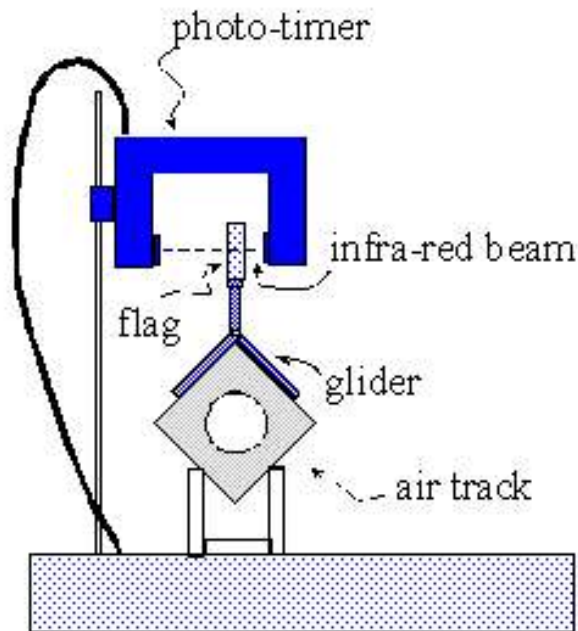

Figure 1: End view of track with aligned photogate.
1. Photogate placement. For accurate results the photogates must be correctly placed. See Figure 1 and notice how close one side of the photogate is to the glider. This eliminates so-called parallax error. The glider has a “flag” that triggers the timer.